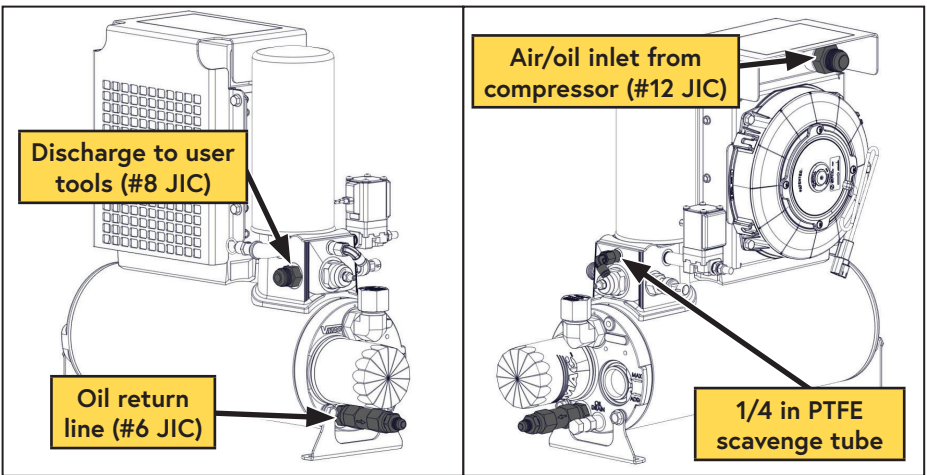

Figure 33 — WHASP Tank connections
- Connect the straight fitting on the 3/4 in hose to the #12 JIC fitting (air/oil inlet) on the cooler above the fan (Figure 33).
- Connect the 90° fitting on the 3/8 in hose to the #6 JIC fitting (oil return fitting) beneath the oil filter on the tank (Figure 33).
- Connect the 1/4 in PTFE tube to the 1/4 in push-to-connect (oil scavenge) fitting near the coalescing filter (Figure 33).